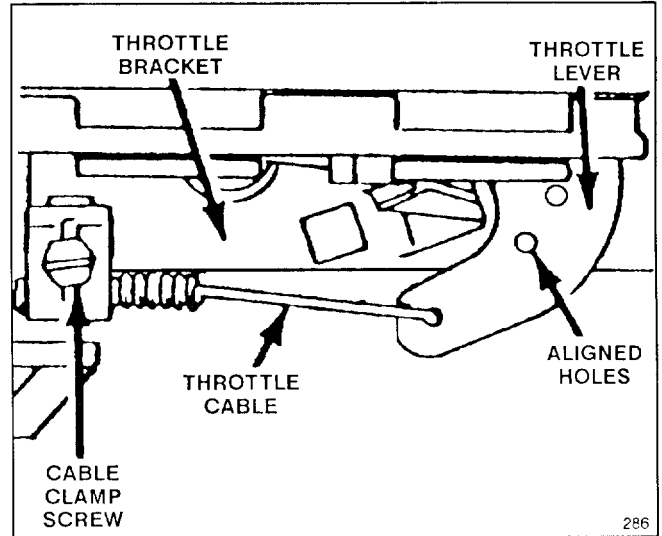

Figure 14
3. Loosen cable clamp screw until throttle cable slides (Fig. 14).
4. Move throttle cable left or right until holes in throttle lever and throttle bracket align (Fig. 14).